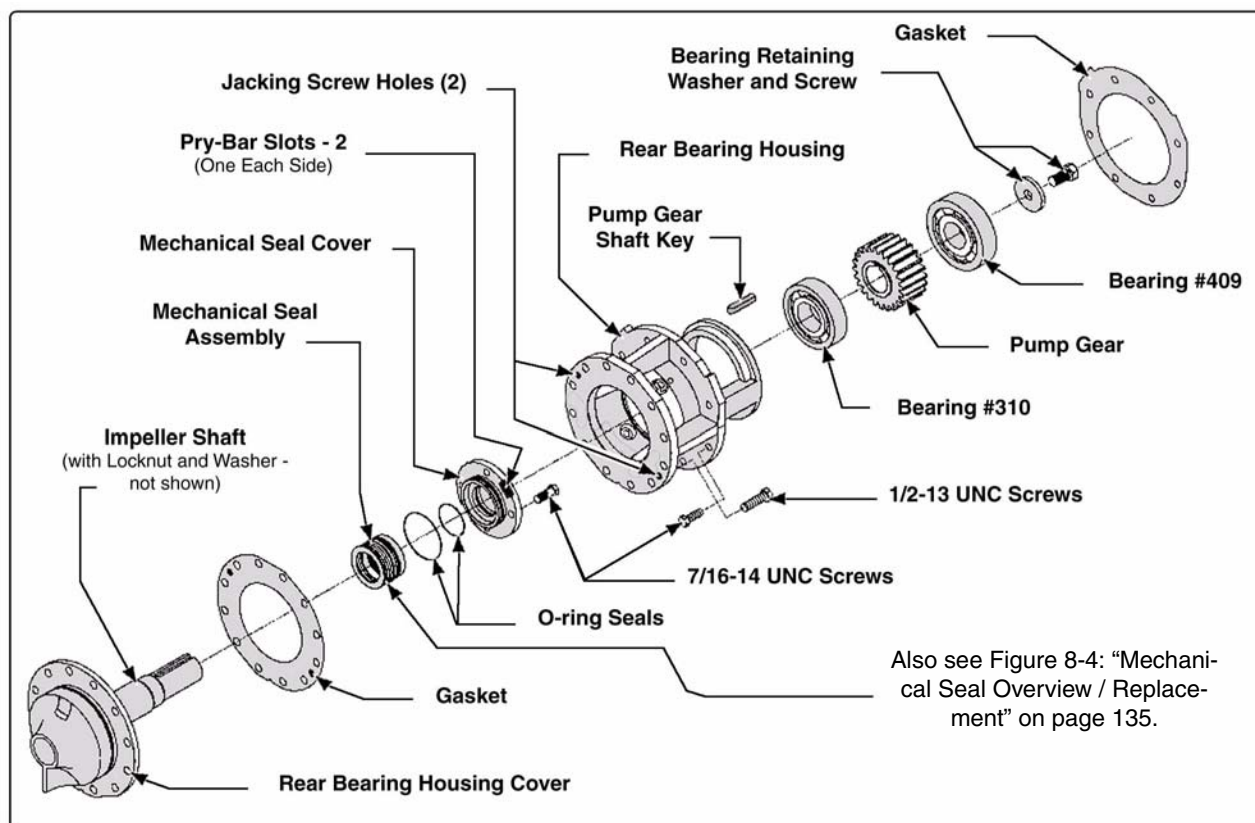
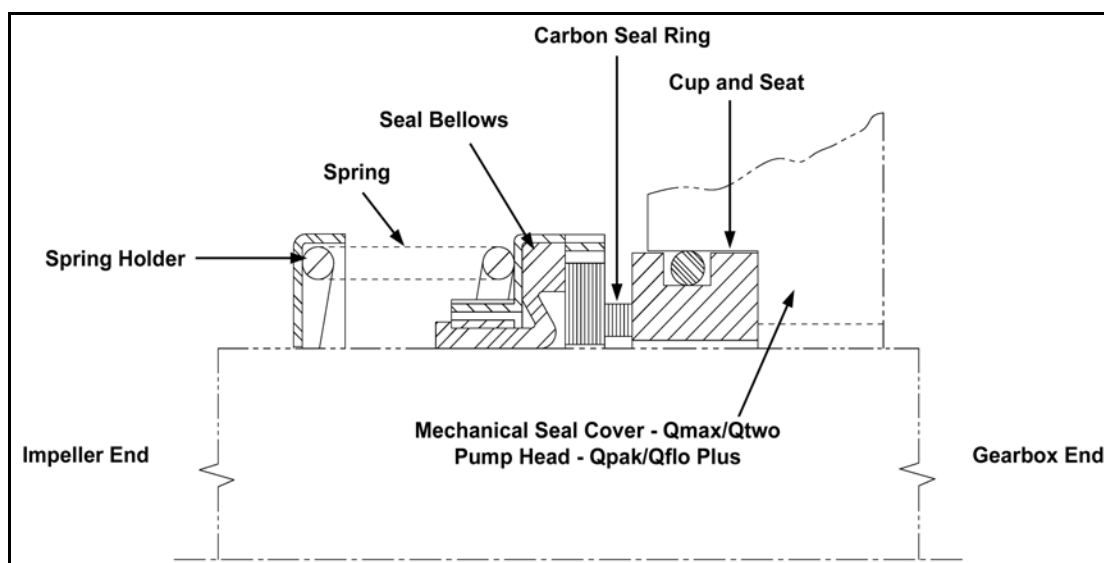

Figure 8-3: Qmax, Qmid, and Qtwo Mechanical Seal Assembly Overview
Figure 8-4: Mechanical Seal Overview / Replacement
(See Figure 8-3: “Qmax, Qmid, and Qtwo Mechanical Seal Assembly Overview.”) Also see Figure 8-4: “Mechanical Seal Overview / Replacement” on page 135.
11. If necessary, use pry bars in the slots provided to loosen the mechanical seal cover from the mechanical seal housing. (See Figure 8-3: “Qmax, Qmid, and Qtwo Mechanical Seal Assembly Overview” on page 134.)
12. Remove the old mechanical seal from the housing and impeller shaft. Two small hooks aid in the removal. (See Figure 8-4: “Mechanical Seal Overview / Replacement” on page 135.)
7. Without touching the carbon seal, slide the new mechanical seal bellows end over the impeller shaft making sure the spring is oriented towards the impeller. (See Figure 8-4: “Mechanical Seal Overview / Replacement” on page 135.)
11. Slide the mechanical seal cover over the impeller shaft making sure the seal remains seated in the bore of the cover. Make sure there is no oil or grease on the faces of the mechanical seal. (See Figure 8-3: "Qmax, Qmid, and Qtwo Mechanical Seal Assembly Overview" on page 134.)
20. Apply Loctite and insert twelve 1/2"-13 screws to secure the rear bearing housing to the seal housing. Evenly tighten the screws in a staggering (or criss-cross) fashion and torque to 65 ft.-lbs. (88 N-m). (See Figure 8-3: "Qmax, Qmid, and Qtwo Mechanical Seal Assembly Overview" on page 134.)
15. If necessary, use pry bars in the slots provided to loosen the mechanical seal cover from the mechanical seal housing. (See Figure 8-3: "Qmax, Qmid, and Qtwo Mechanical Seal Assembly Overview" on page 134.)
7. Without touching the carbon seal, slide the new mechanical seal bellows end over the impeller shaft making sure the spring is oriented towards the impeller. (See Figure 8-4: "Mechanical Seal Overview / Replacement" on page 135.)